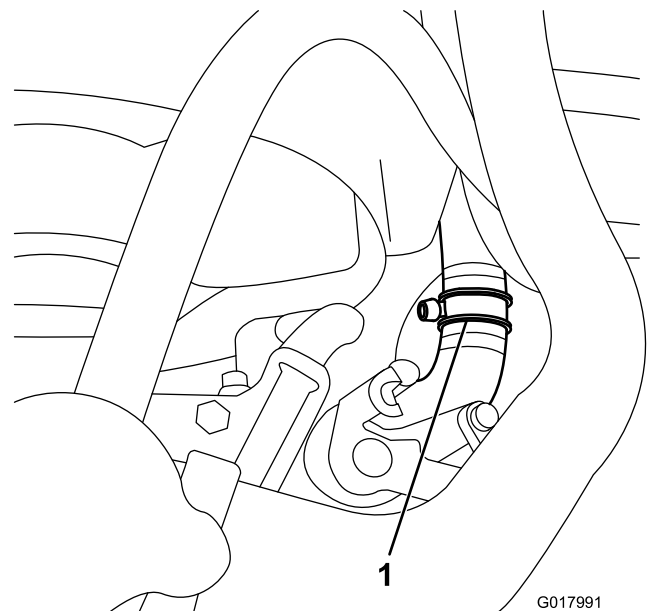

Figure 21
3. Cut the lower radiator hose about 2 1/8 inches from the end of the hose going into the radiator (Figure 21).
4. Connect the tee fitting to each newly cut end of the lower radiator hose with the 2 wide hose clamps (Figure 21).